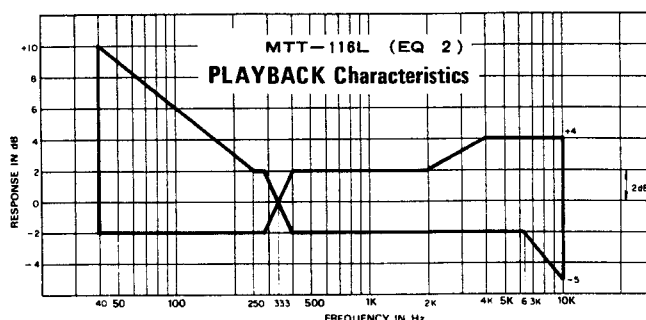

Fig. 11-4 Frequency Response - Playback -
3. With the 333Hz/-10dB signal of the test tape as a reference, confirm the output level of each frequency from 40Hz to 10kHz is within the limits shown on the chart. Fig. 11-4